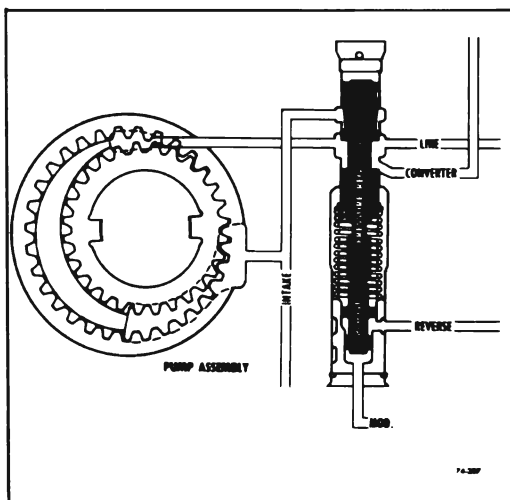

Figure 76-209 - Pump and Pressure Regulator Valve
The transmission is automatically controlled by a hydraulic system. Hydraulic pressure is supplied by the transmission gear type oil pump, which is engine driven. Main line pressure is controlled by a pressure regulator valve train located in the pump. This regulator controls line pressure automatically, in response to a pressure signal from a modulator valve, in such a way that the torque requirements of the transmission are met and smooth shifts are obtained at all throttle openings. See Figure 76-209.
a. Regulates line pressure according to a fixed spring force and forces controlled by modulator and reverse pressure. See Figure 76-209.